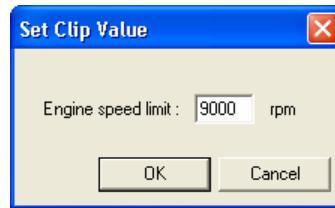

Figure 20 - Set Clip Value Dialog
2. Select the Set Clip Value option, the Set Clip Value dialog (Figure 20) appears.